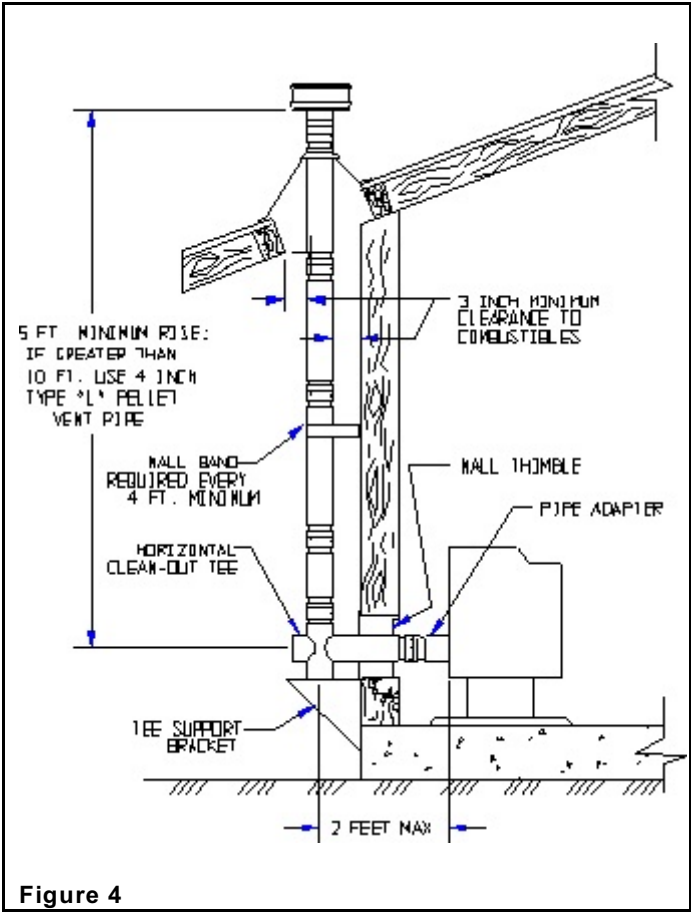

Figure 4
1. When exiting through the wall with your type L Pellet vent pipe, you may go straight out through a wall thimble. You must connect a pellet vent tee at this point and extend the vent pipe at least 3' (three feet) vertically outside to provide good draft and allow the gases to exit. The tee must have a clean out cap for inspection and regular cleaning (Figure 4). Horizontal runs must be limited to 2' (two feet). A wall band is required for every 4' (four feet) minimum on a vertical run at an exterior wall.